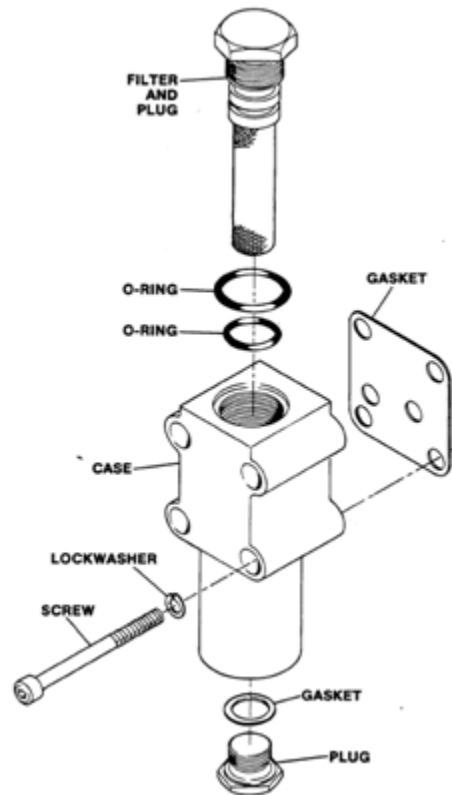

Figure 5-51. Oil Filter
24. Assemble oil filter after cleaning it and mount it in position on vane servo side plate (Figure 5-51).